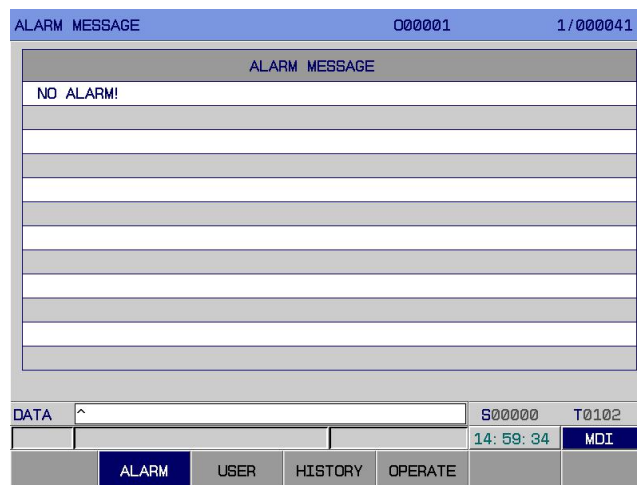

Fig.3-7-1
case, press to display alarm page. It contains 4 display interfaces: [alarm], [user], [history], [resume], which are switched through corresponding softkeys (See Fig.3-7-1 ~ Fig.3-7-4). It is allowed to set whether to switch to alarm interface or not in the case of an alarm, through Bit Para N0: 24#6.
1. Alarm interface: On <alarm> interface, press [alarm] to enter the alarm interface, as shown in Fig.3-7-1: